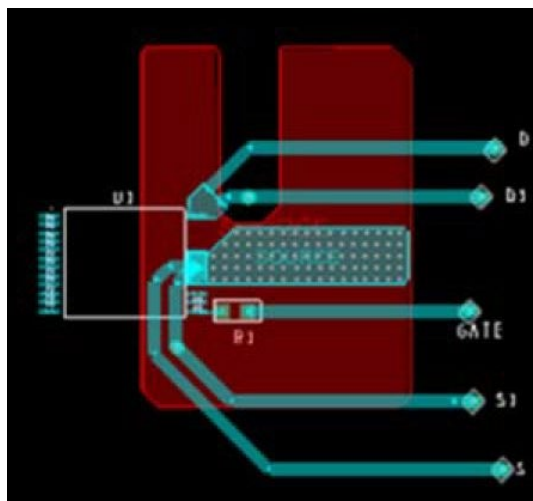

Figure 21. Thermal Resistance Test Conditions for PowiGaN Devices (INN3679C and INN3670C.)
Testing performed on custom thermal test PCB as shown in Figure 21. The test board consists of 2 layers of 2 oz. Cu with the InSOP package mounted to the top surface and connected to a bottom layer Cu heat sinking area of 550 mm2.
4. Please see Figure 21.